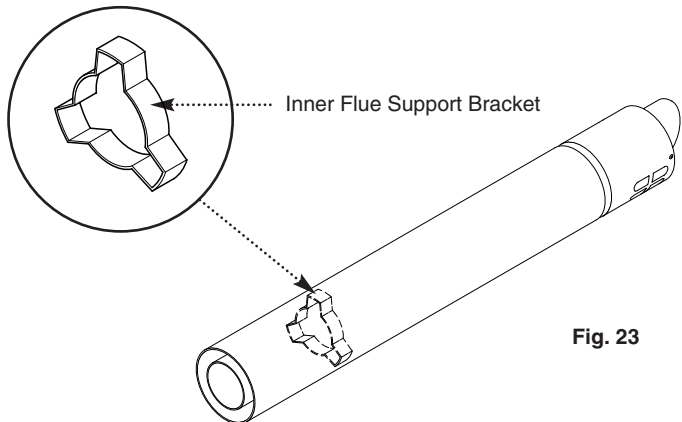

Fig. 23
**IMPORTANT:** Check all measurements before cutting. When cutting ensure the cut does not interfere with the inner flue support bracket (Fig. 23).